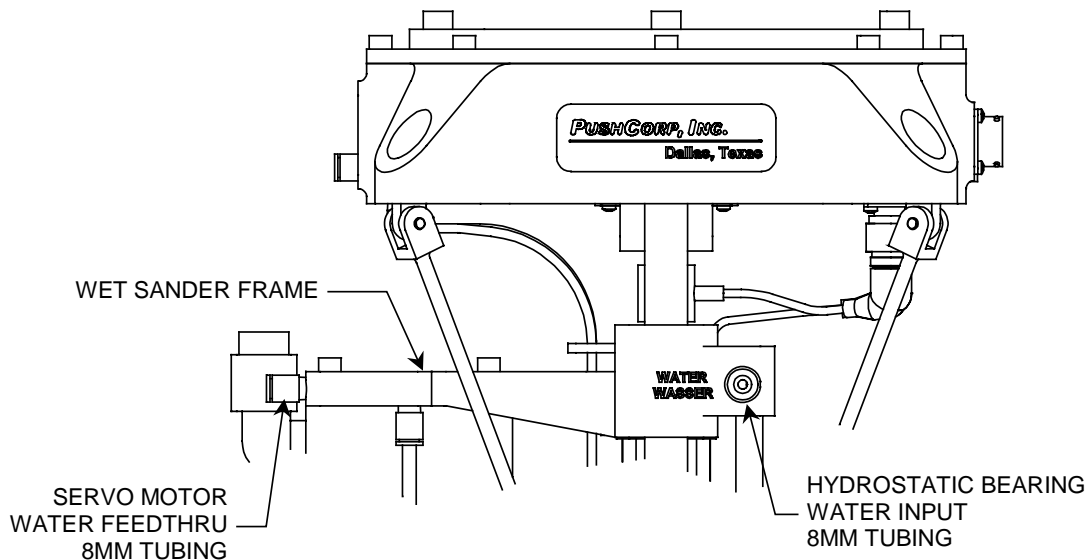

Figure 4. AFD1200 Water Connections
Figure 4 shows the (2) water connections on the AFD1200. The first water connection on the Wet Sander Frame is a 8mm Push-lock Fitting, labeled "WATER (WASSER)". The Hydrostatic Bearing Water Input supplies the hydrostatic bearings. The hydrostatic bearings require pressurized water to provide the force to separate the bearing from the round linear shaft. The greater the water pressure, the greater the bearing load capacity. The AFD1200 requires a minimum 60 psi (4.2 bar) to a maximum 100 psi (6.8 bar) water pressure. Without proper water pressure, the bearing will come into contact with the linear shaft and cause excessive friction and force errors. The second connection is an 8mm push-lock fitting, supplying water to the Servo Motor Water Feedthru.